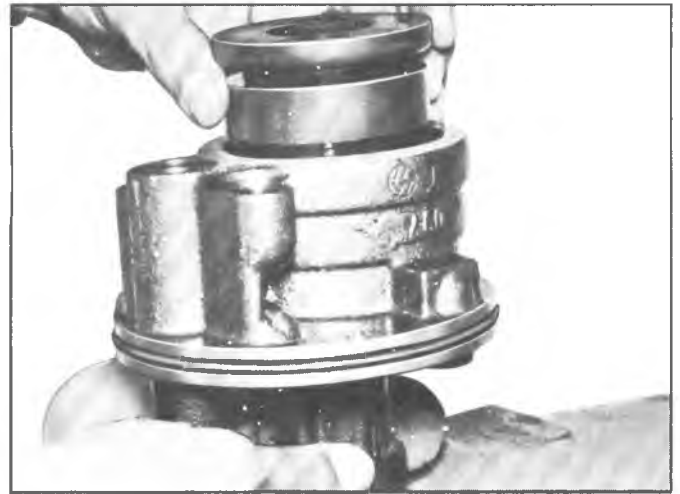

Fig. 19--Impeller Unit Removal
10. With the pump still in a vise, remove the shaft woodruff key and tap end of shaft gently with a soft hammer until the shaft, pressure plate, pump ring, rotor assembly and thrust plate can be removed as a unit (fig. 19).